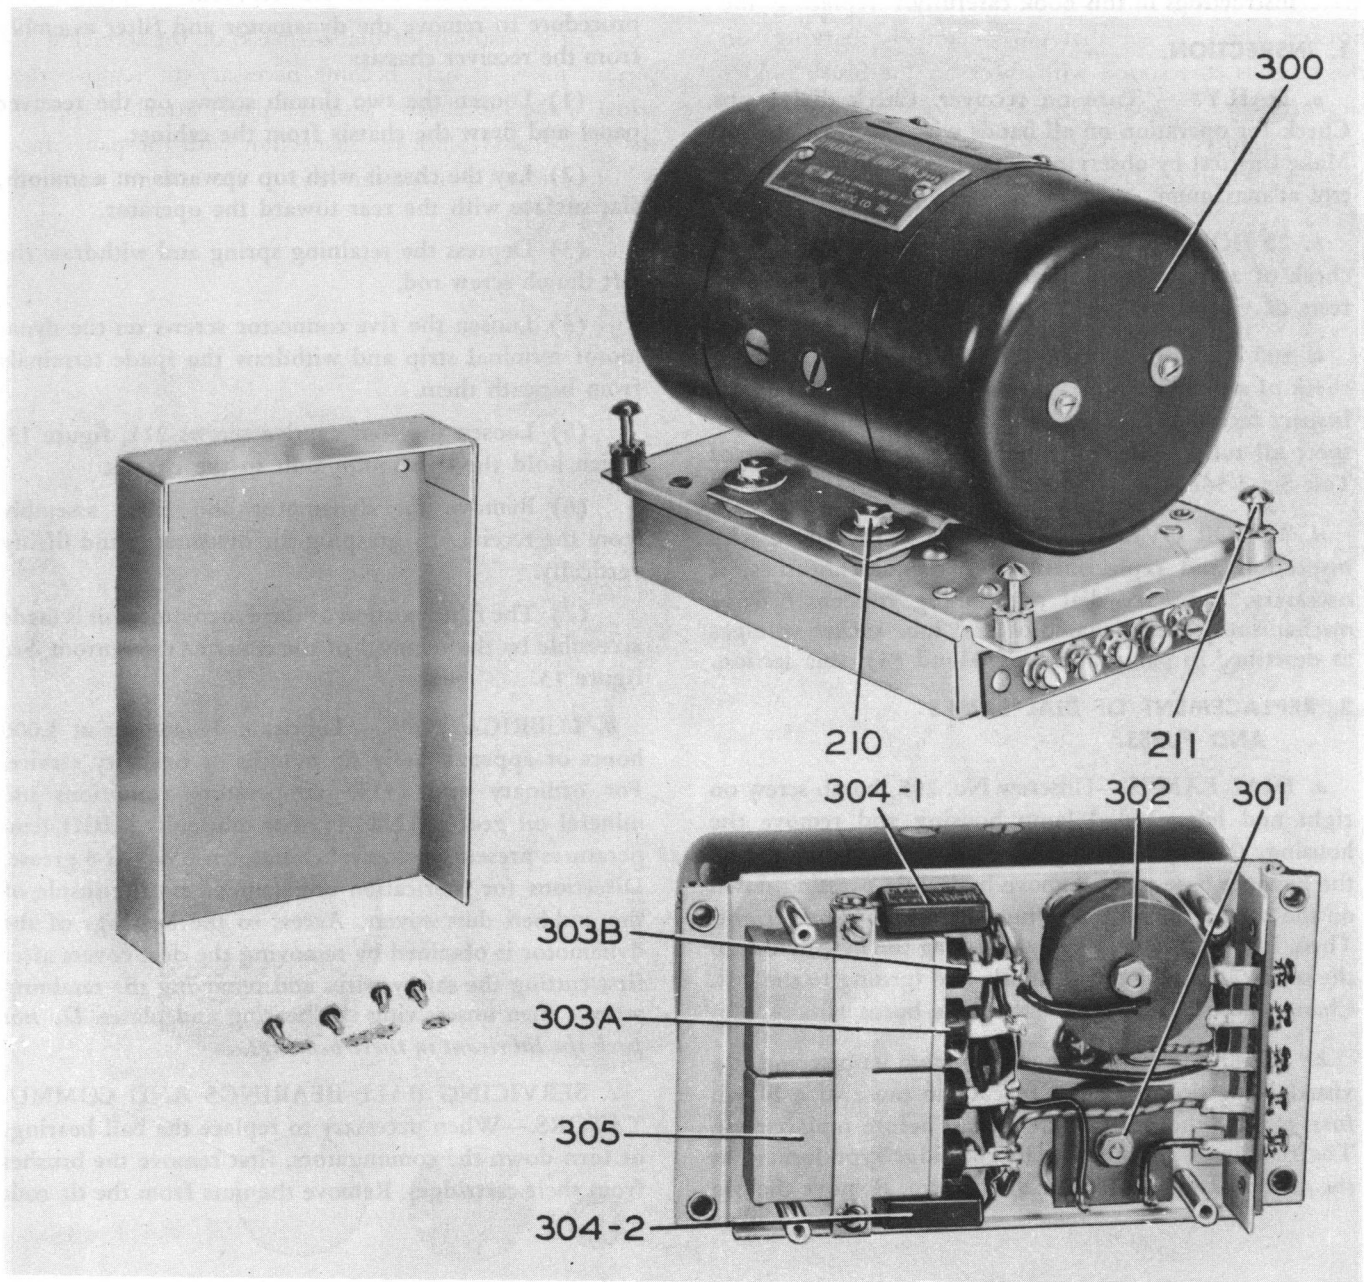

Figure 13 — Dynamotor DM-28-(\*), or DM-24-(\*), View Showing Filter Open
(1) Loosen the two thumb screws on the receiver panel and draw the chassis from the cabinet.
(2) Lay the chassis with top upwards on a smooth, flat surface with the rear toward the operator.
(3) Depress the retaining spring and withdraw the left thumb screw rod.
(4) Loosen the five connector screws on the dynamotor terminal strip and withdraw the spade terminals from beneath them.
(5) Loosen the four captive screws 211, figure 13, which hold the dynamotor unit to the chassis.
(6) Remove the dynamotor and filter assembly from the receiver by grasping the dynamotor and lifting vertically.
(7) The filter portion of the dynamotor unit is made accessible by the removal of the cover at the bottom. See figure 13.